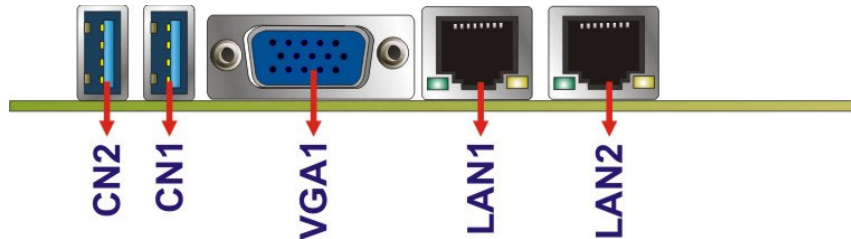

Figure 3-24: External Peripheral Interface Connector
- CN Location:** See Figure 3-24
- CN Location:** See **Figure 3-24**